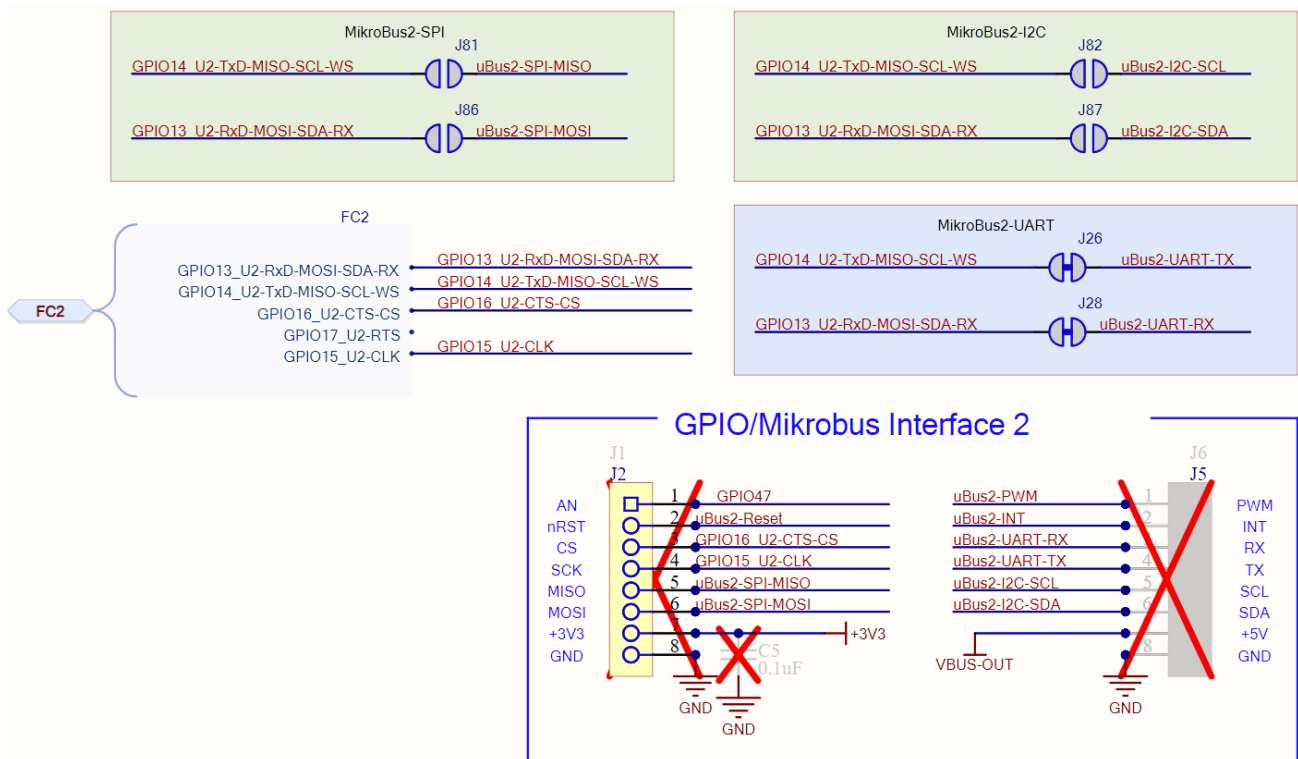

Figure 23: mikroBUS 2 slot signals and Jumper configuration
- To enable I2C or SPI, adjust the state of jumpers J81 and J86 for SPI, or J82 and J87 for I2C, as shown in Figure 23. Also, toggle jumpers J26 and J28 to disable UART.
Figure 23 shows the connection of mikroBUS 2 to the Flexcomm 2 interface.